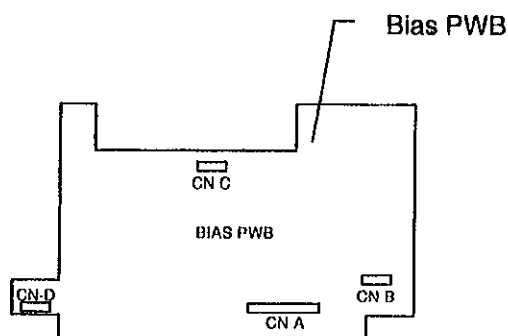

Figure 1. Adjusting the Bias Voltage
2. (Figure 1): Adjust VR301 on the bias PWB until the voltage is between -247 to -253 VDC